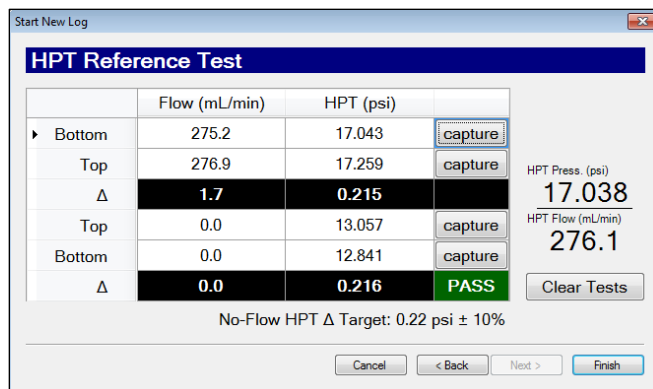

Figure 5.14: HPT Reference Test Screen
4. With a stable pressure reading and the water flowing out of the valve select “capture” - bottom with flow (Fig. 5.14)